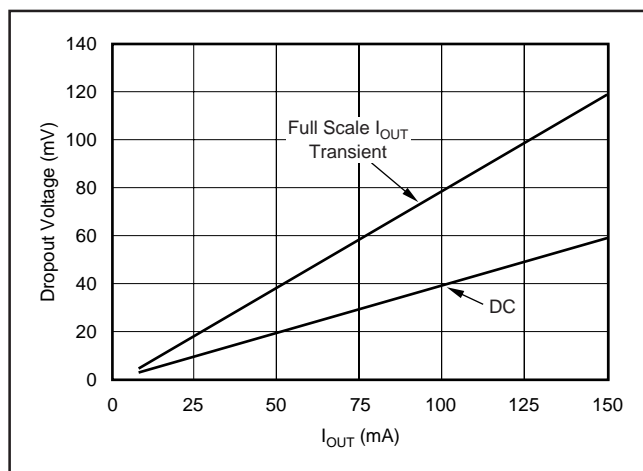

FIGURE 6. Transient and DC Dropout.
The REG101 uses an N-channel DMOS as the “pass” element. When the input voltage is within a few tens of millivolts of the output voltage, the DMOS device behaves like a resistor. Therefore, for low values of  $V_{IN}$  to  $V_{OUT}$ , the regulator’s input-to-output resistance is the  $R_{DS(ON)}$  of the DMOS pass element (typically 600m $\Omega$ ). For static (DC) loads, the REG101 will typically maintain regulation down to  $V_{IN}$  to  $V_{OUT}$  voltage drop of 60mV at full rated output current. In Figure 6, the bottom line (DC dropout) shows the minimum  $V_{IN}$  to  $V_{OUT}$  voltage drop required to prevent drop-out under DC load conditions.
For large step changes in load current, the REG101 requires a larger voltage drop across it to avoid degraded transient response. The boundary of this “transient drop-out” region is shown as the top line in Figure 6. Values of  $V_{IN}$  to  $V_{OUT}$  voltage drop above this line insure normal transient response.